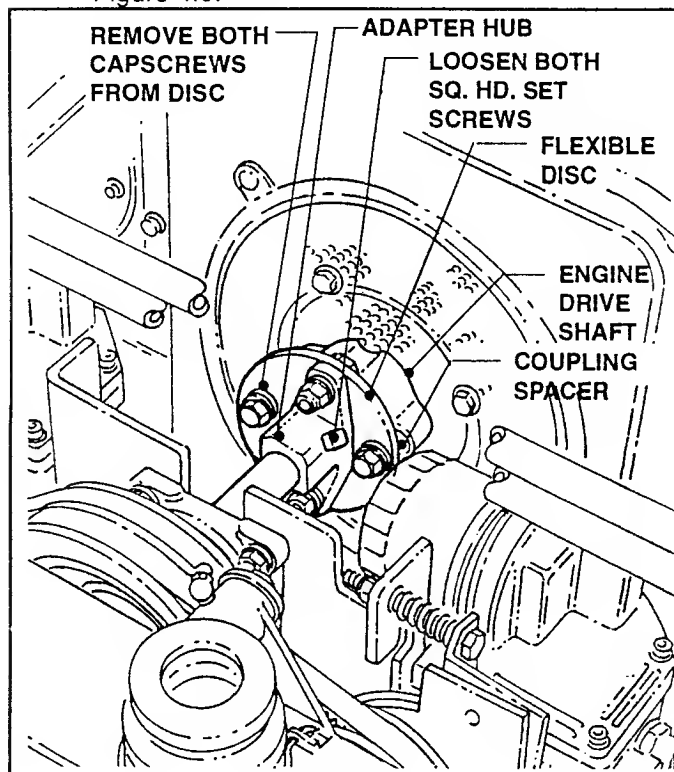

FIGURE 4.9
- A. Loosen both set screws on the Adapter Hub. See Figure 4.9.
- A. Loosely attach NEW Flexible Disc to Engine Drive Shaft with two (2) Coupling Spacers, 5/16 x 1 1/2" Hex Hd. Cap Screws, Lock Washers and Flat Washers. Refer to Figures 4.9 & 4.10.